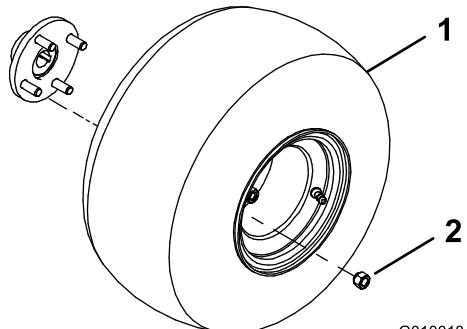

Figure 3
2. Mount a wheel assembly onto each rear wheel hub (Figure 3).